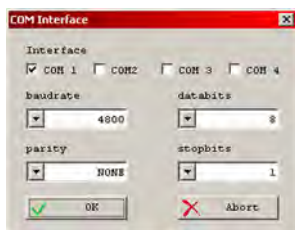

Fig. 186: COM port setting
2. ➤ Configure the COM port (Fig. 186).